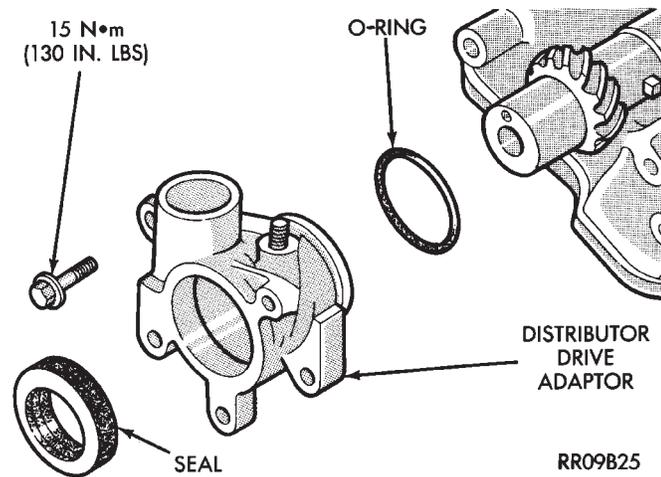

Fig. 11 Distributor Drive
(3) Tighten bearing cap bolts in the following order to 10 N·m (85 in. lbs.). First #3, then #2, #1 and #4.
(4) Repeat step 3 increasing the torque to 20 N·m (180 in. lbs.).
(5) Install distributor drive adaptor assembly (Fig. 11).